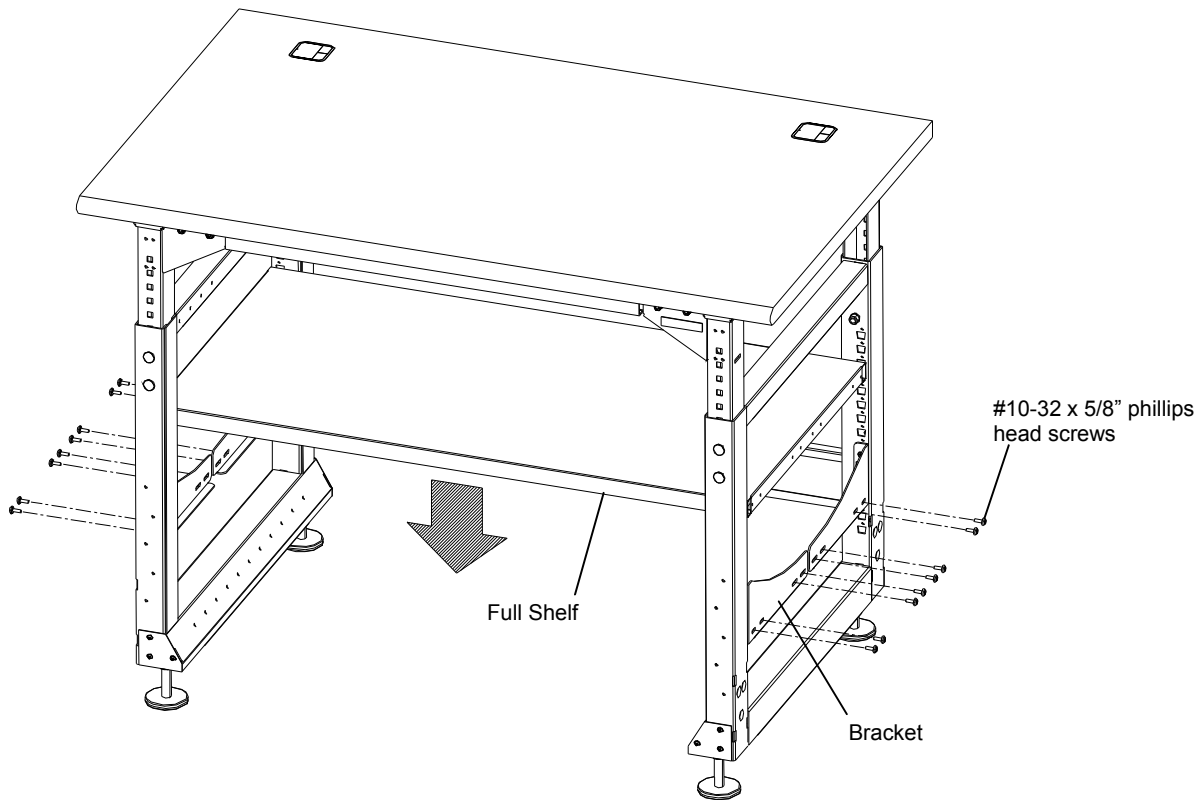

Figure 3.
3. While Lower the Full Shelf onto the Brackets and align the holes in the sides of the shelf with the slots in the Brackets. Fasten the shelf to the Brackets using four #10-32 x 5/8" phillips head screws (provided) on each side. See figure 3.